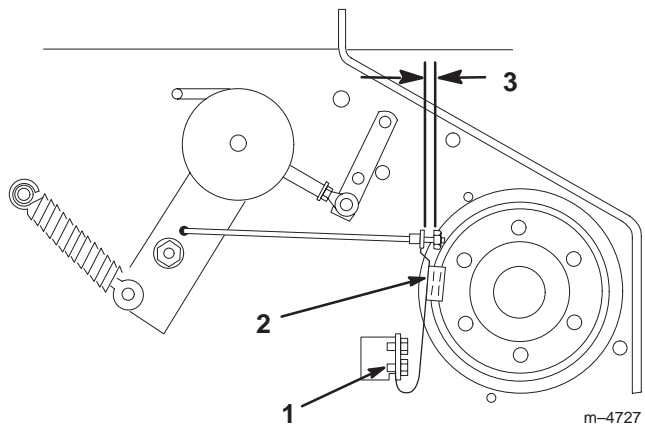

Figure 49
2. If necessary, adjust the spring mounting bolts so that the blade brake pad rubs against the pulley edges (Fig. 49).
3. Adjust the nut at the end of the blade brake rod until there is 1/8” (3mm)–3/16” (5mm) between the nut and spacer (Fig. 49).